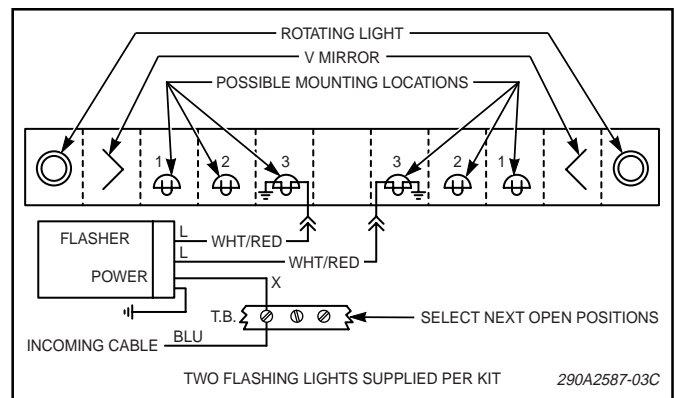

Figure 1.
1. Select the mounting location for the Model FK60 (see figure 1).